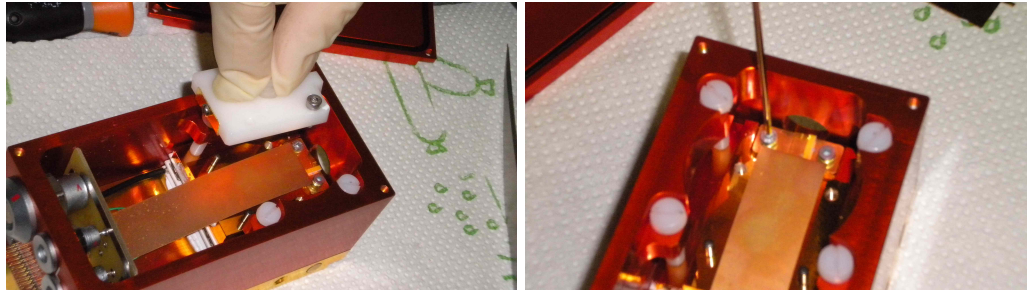

Figure 7.6.: Laser exchange procedure: removing the contact set (left), securing the laser submount (right).
2. remove the two screws (3) holding the contact set (4) using a 2mm hex key
3. remove the contact set using the central PET1 knob, as show in figure 7.6. *Note:* this PET screw is used as a knob, do not remove it.
4. remove the two screws holding the laser submount using a 1.5 mm hex key, as show in figure 7.6